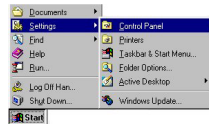

Figure 1
1. Click the **Start** button and select **Settings** → **Control Panel**. (Figure 1)